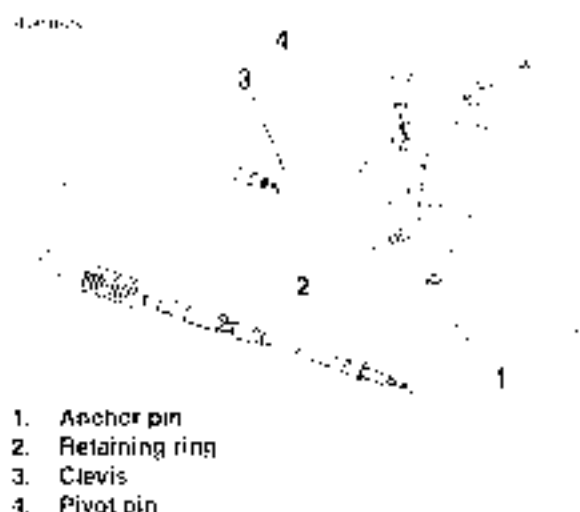

Figure 2-114. Clutch Cable Installation
2. See Figure 2-114. Remove the clutch cable and anchor pin (1) from the handle lever. To remove anchor pin it will be necessary to remove the retaining ring (2) and clevis pin (4).
7. See Figure 2-114. Insert anchor pin (1) through handle and clutch cable clevis end (3).
8. Place handle in bracket and install pivot pin (4) and retaining ring (2).